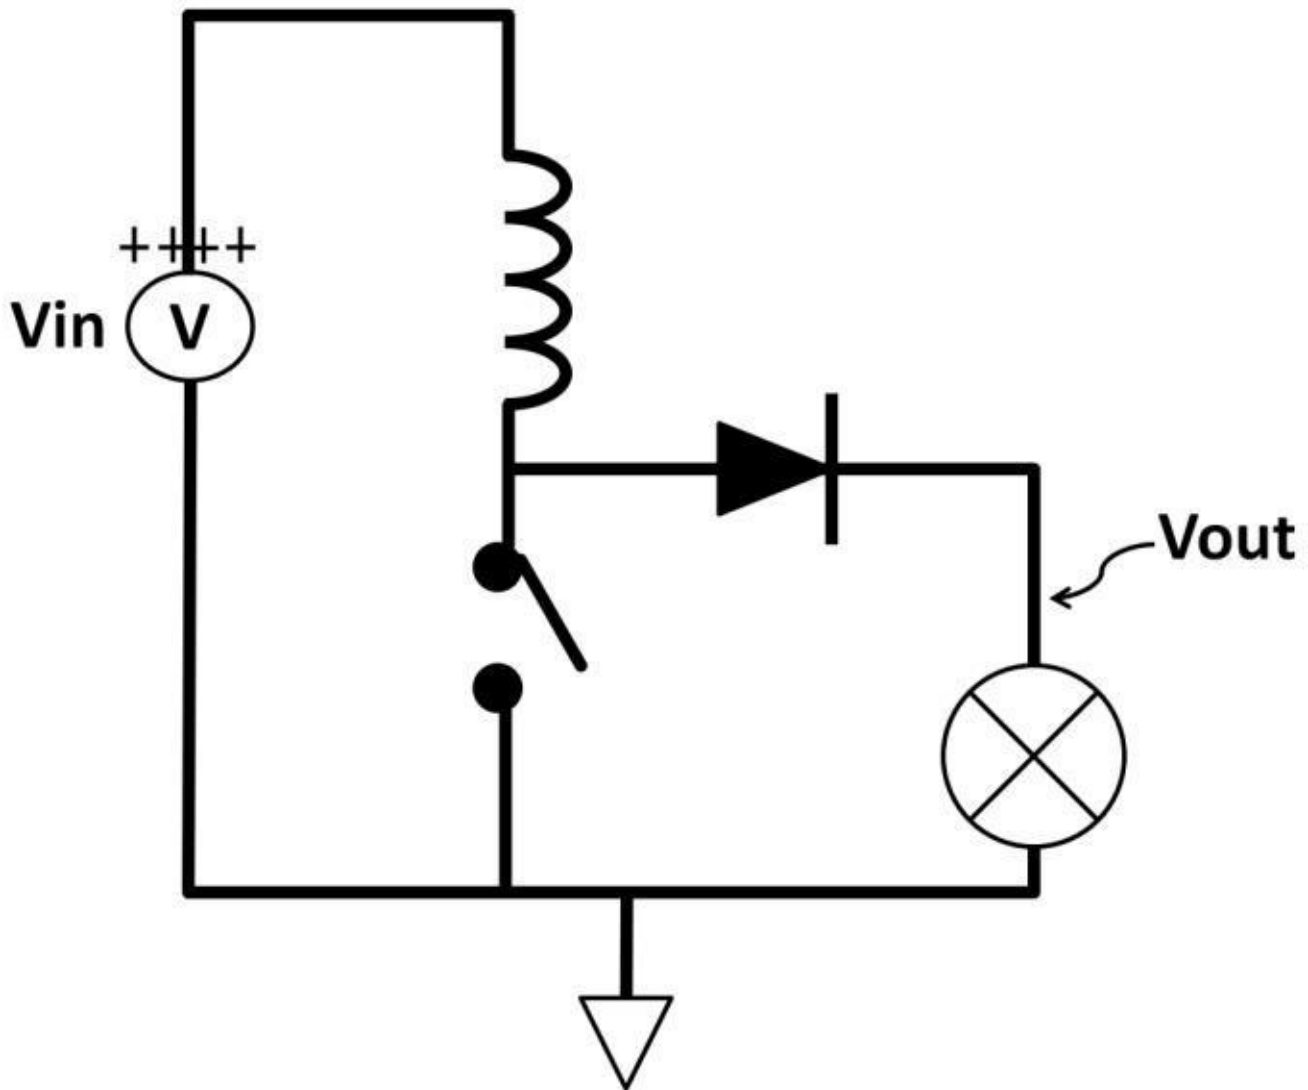

Figure 3.65: Boost-switching regulator
- 6) Derive the V_{out} to V_{in} transfer function of the boost-switching regulator (see figure 3.65). Hint: Assume diode forward voltage drop is 1 V.